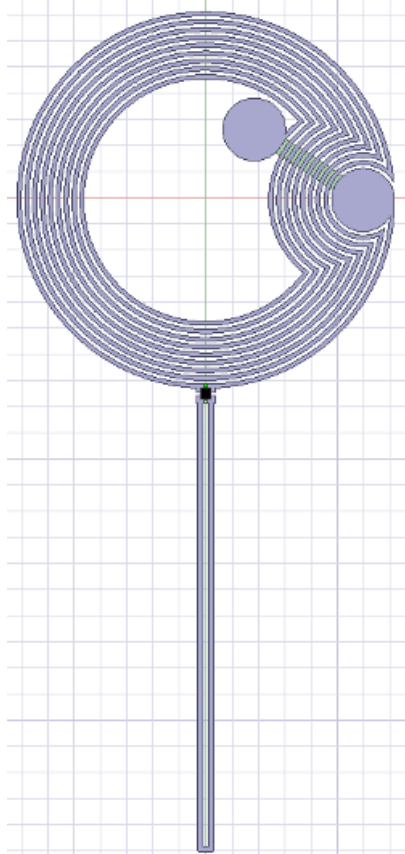

Figure 6. Tamper loop conductors in proximity
- Keep the Tamper loop conductors close to each other (Figure 6).